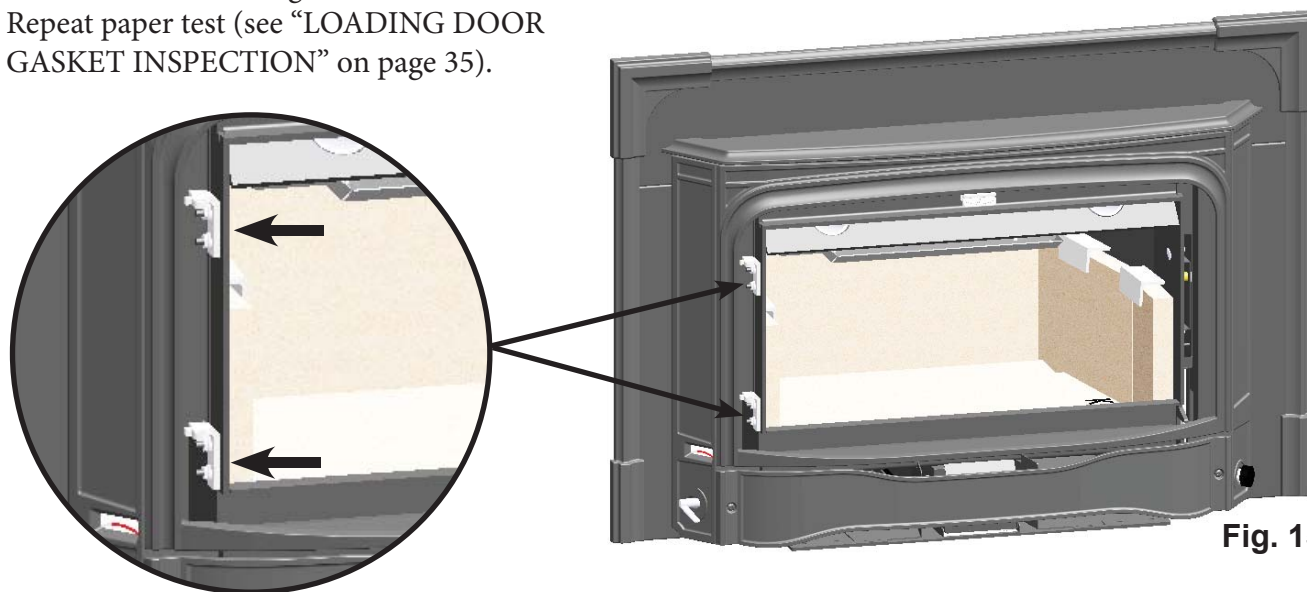

Fig. 15
4. Loosen the four door hinge nuts using a 7/16" wrench. Slide door hinges in to tighten door seal and out to loosen door seal. (**Fig. 15**)